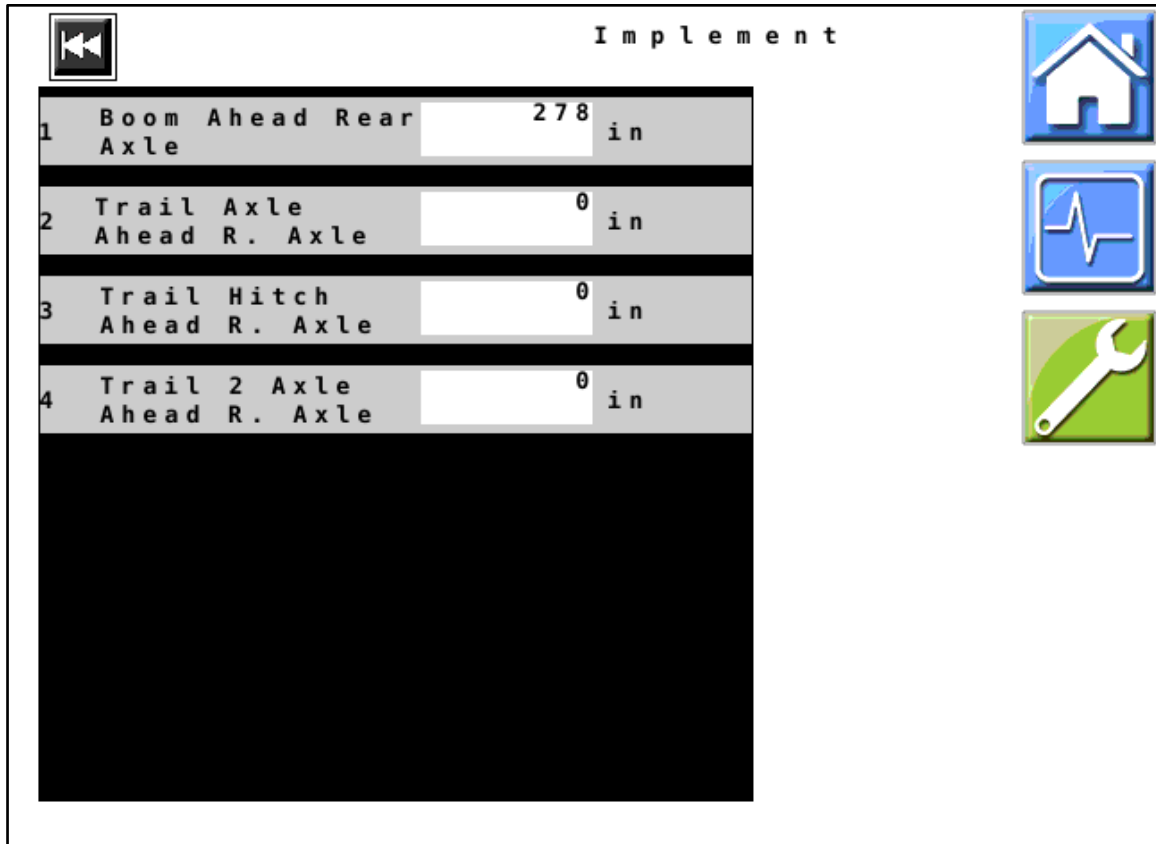

Figure 23 — Implement
42. *Figure 23*: Verify that all values displayed on your unit match those shown here. Change values if necessary.